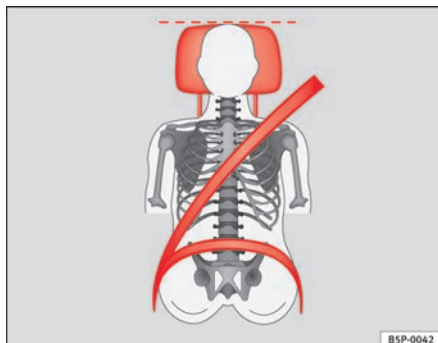
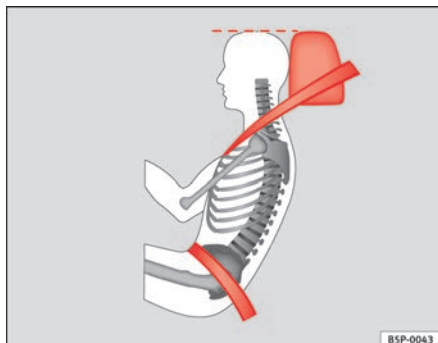

Fig. 3 Properly adjusted head restraint viewed from the front
Fig. 4 Properly adjusted head restraint viewed from the side
- Adjust the head restraint so that the top is at the same level as the top of your head or as close as possible to the same level as the top of your head, at least at eye level ⇒ fig. 3 and ⇒ fig. 4